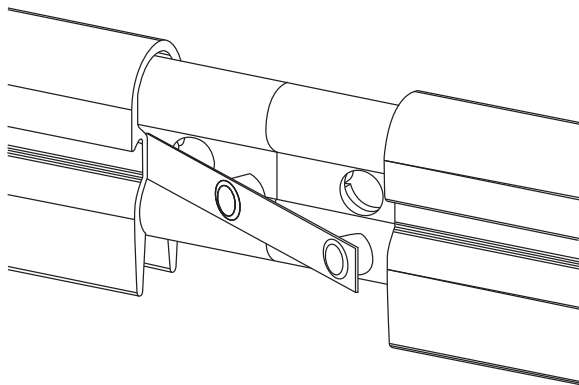

Figure: 9-7
- A. Slide the long end of the joint keeper under the conductor bar cover on the smooth side of the bar. See **Figure 9-7**.